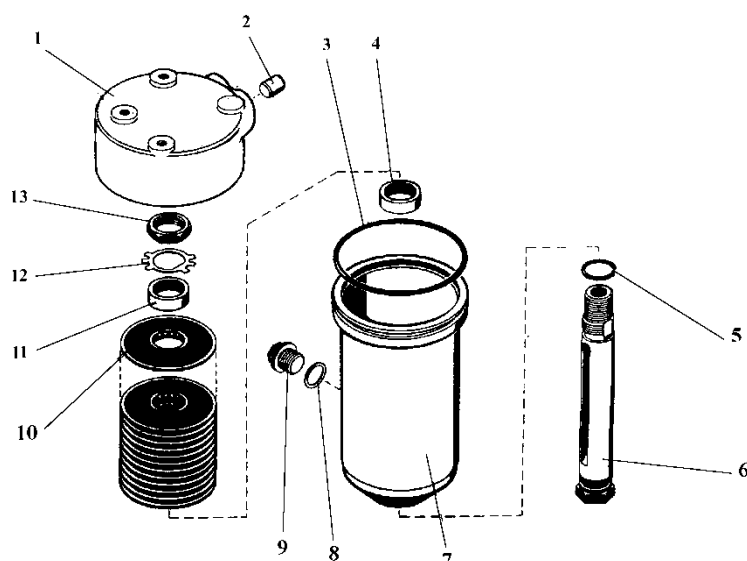

Fig. 42 Gearbox filter with pressure valve
- c) Install the filter onto the gearbox. Pay **attention** to the fact that pack of filter elements 10 (Fig. 42) in the assembled filter shall be firmly tightened with nut 13.
- a) Undo plug 9 (Fig. 42) of the filter and drain oil.
- e) Assemble the filter. Pay **attention** to the fact that pack of filter elements 10 (Fig. 42) in the assembled filter shall be firmly tightened with nut 13.